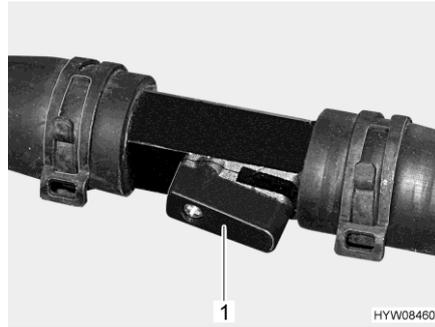

Fig. 163 Stopcock (open)
- Set the lever (Fig. 163,1) of the stopcock parallel to the pipe (Fig. 163). The wider the stopcock is opened, the higher is the heat output.
- Set the lever (Fig. 163,1) of the stopcock at right angles to the pipe. Heat is circulated by the bypass line.